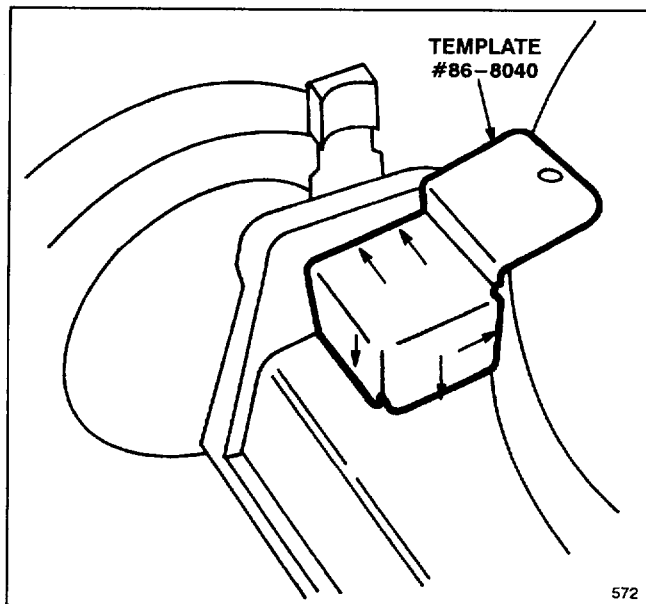

Figure 6
1. Position template #86-8040 so that all tabs are **fully** contacting mower deck on surfaces indicated in Figure 6. Mark hole with metal punch and remove template.